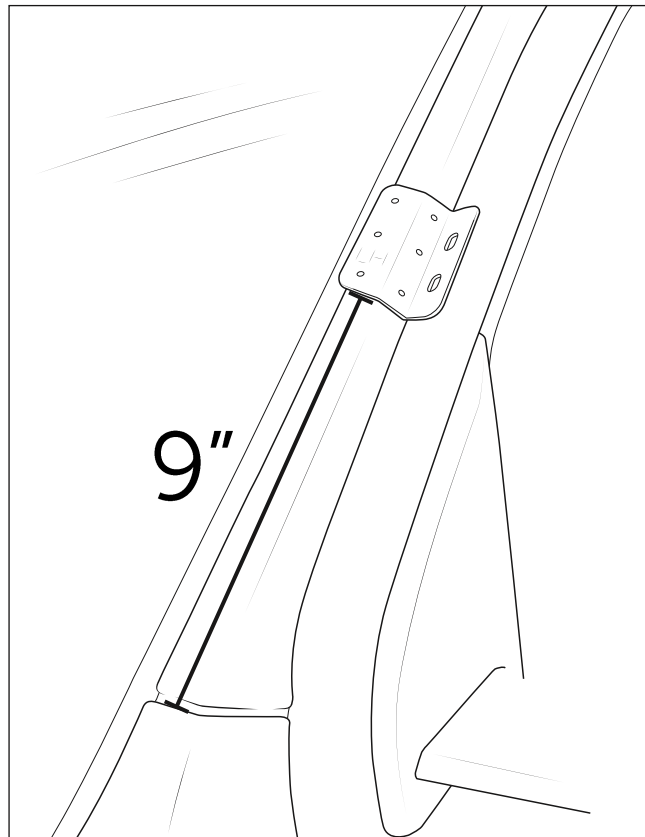

Figure 5
11. Attach A-Pillar Bracket to A-Pillar (fig 5):
D. Detach Fender/Fascia Bracket (fig. 5 & 6)